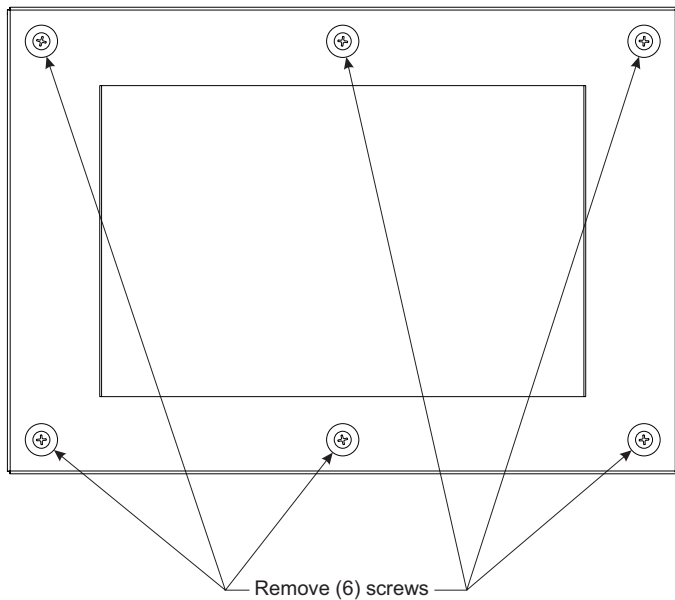

Figure 22
3. Remove the front fascia by removing the 6 #10-24 X 3/8 inch screws shown in **Figures 22 and 23**. Set front fascia and foam gasket aside.